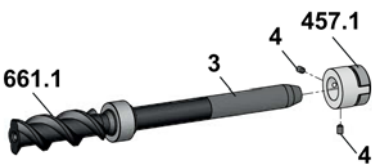

Fig 10
4. Slide the rotary seal ring **457.1** and the corresponding parts of the mechanical seal spring onto the main screw. Use the main screw mounting sleeve **3** to this purpose, see Fig. 10. Tighten the threaded pins **4**.